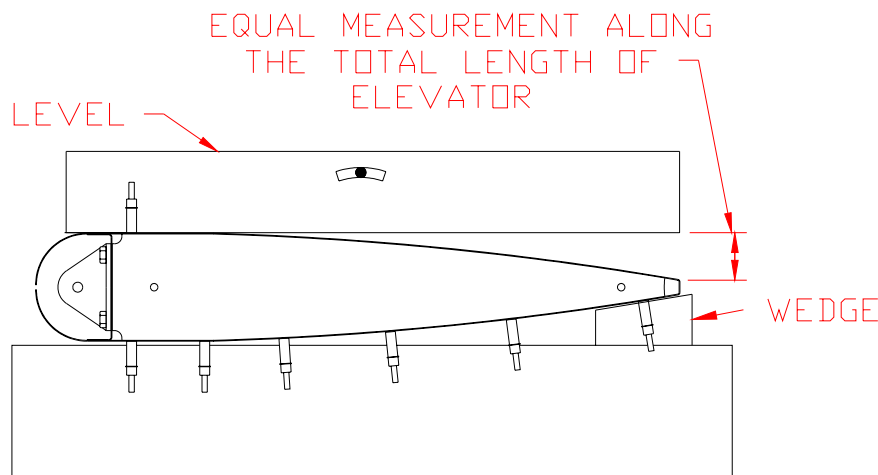

Figure 4.2.3
3) To ensure that the assembly is level, take a measurement from the bottom of the Trailing Edge to the bottom of a 24" level. It should be the same distance at both ends. If it is not you can use some small wood wedges under the Spar at each end to adjust the height. Figure 4.2.3.